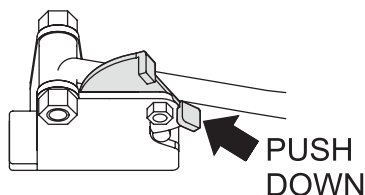
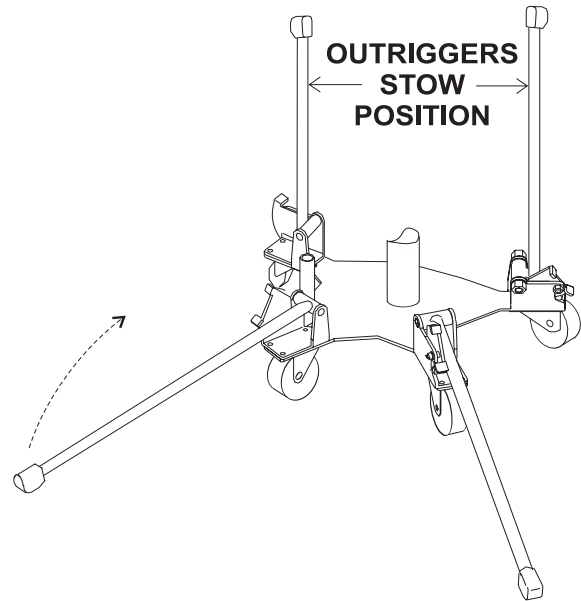
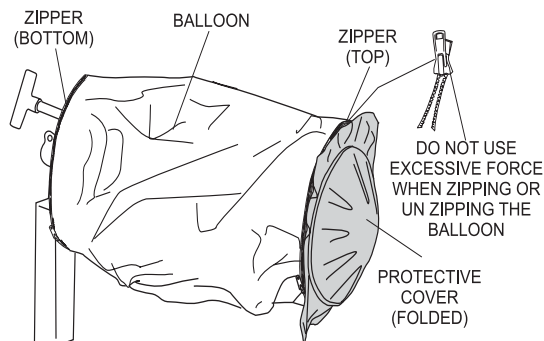
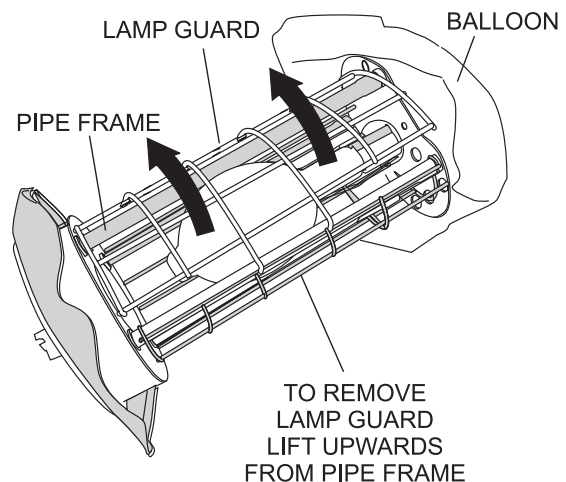

Figure 19. Outriggers (Released)
Figure 20. Outriggers (Stow Position)
Figure 23. Exposing the Balloon
Figure 24. Removing the Lamp Guard
7. To unlock outriggers, push downward on the counterweight lever indicated by arrow (Figure 19). Grab hold of outrigger, pull upward, and place in stow position (Figure 20).
1. Expose the balloon (Figure 23) by pulling down on the velcro tabs and unzip the protective cover as shown in Figure 19. Next, fold the protective cover into itself and zip.
2. Unzip the zipper (Figure 23) at the bottom of the balloon and roll the balloon envelope upwards to expose the lamp (Figure 24). Remove the lamp guard to gain access to the lamp. **DO NOT** use excessive force when unzipping the balloon.
2. Zip up the zipper at the bottom (Figure 24) of the balloon and pull down the balloon envelope to cover the lamp.